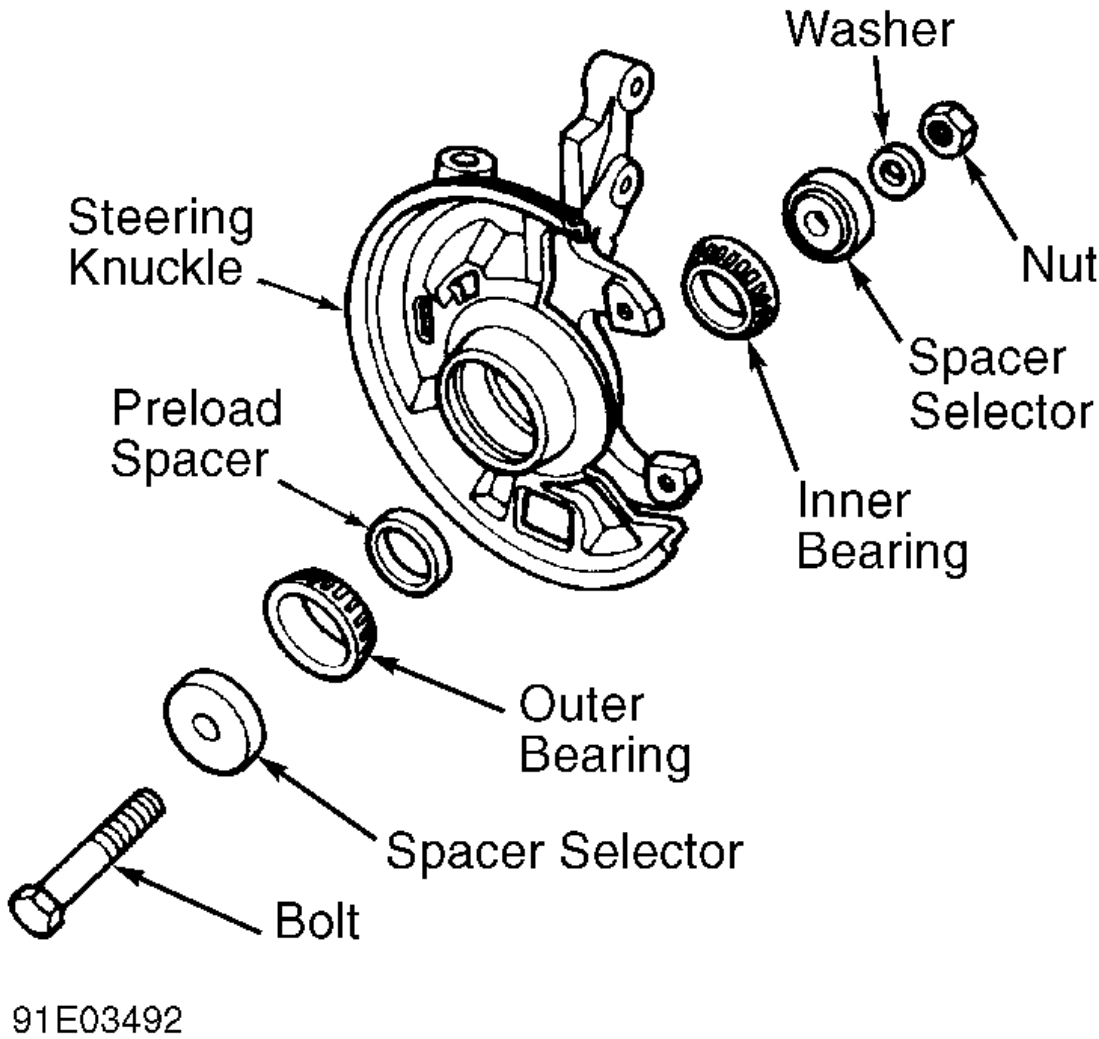

Fig. 4: Installing Preload Spacer Selector Set
1. Use Spacer Selector Set (T87C-1104-B) to check and adjust preload. Install spacer selector into steering knuckle and clamp tool in vise where shock absorber mounts, before installing hub/rotor assembly into steering knuckle. See Fig. 4 .